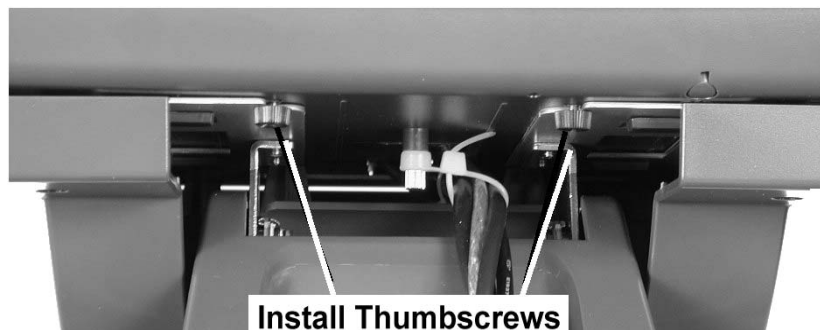

Figure 4-3: Securing the Workstation to the Adjustable Stand
3. Tilt the workstation to the fully reclined position and install the pair of thumbscrews supplied with the stand to secure it to the workstation. Figure 4-3.